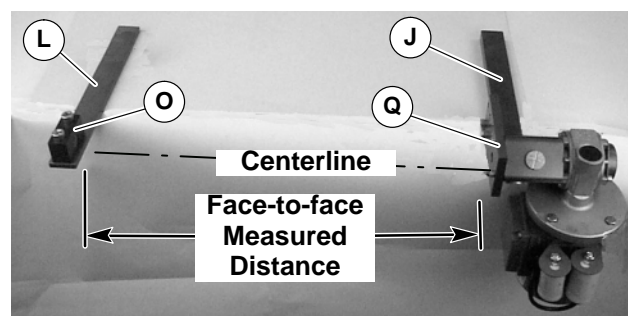

Figure 7
6. Attach guard tube (G) and gearmotor support assembly (J) to gearmotor assembly (F) with screws (K). Tighten screws (K) to 5.6 Nm.
NOTE: Mounting holes are not provided. Ensure that gearmotor assembly (J of Figure 7) and bearing support assembly (L) are parallel and center-line of coupling matches center-line of bearing block (O).
7. Attach gearmotor assembly (J of Figure 7) and bearing support assembly (L) to mounting surface.